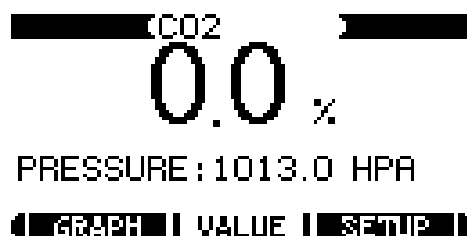

Figure 4: VALUE mode screenshot
The default mode after the start-up is the VALUE mode. It displays the name or chemical formula of the gas whose concentration is being indicated, the indicated concentration, and the pressure in the sampling cell, (See Figure 4 below)
If the navigation button beneath any of these options is pressed further options are revealed. These can be accessed through the menu system described below. If the navigation button on the right is pressed, when the display is as shown in Figure 4, the SETUP menu will be revealed and so is referred to as the SETUP button.
- 2i) While in the VALUE mode (shown in Figure 4, the default mode after switch on) press the right-hand navigator button – the SETUP button.
- 3i) While in the VALUE mode (shown in Figure 4, the default mode after switch on) press the right-hand navigator button – the SETUP button.
- 4i) While in the VALUE mode (shown in Figure 4, the default mode after switch on press the right-hand navigator button – the SETUP button.